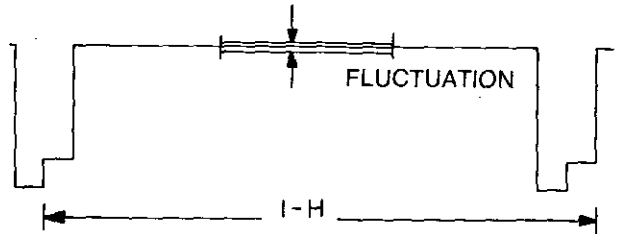

Figure 12
- 4) Adjust VR502 to obtain minimum fluctuation (A straight line) as shown in figure 12.
- 6) Adjust and confirm patterns as shown in figure 12 and 13.